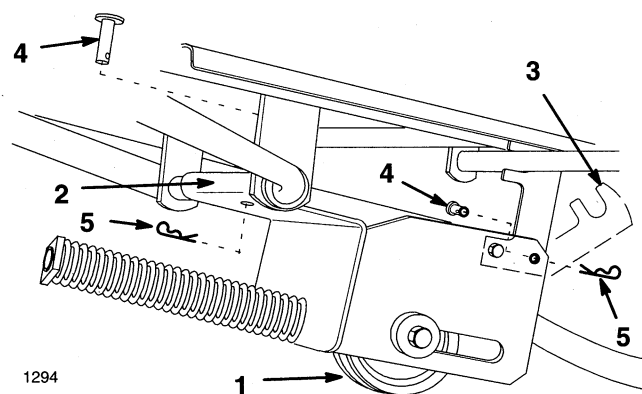

Figure 20
5. Pull on idler pulley (Fig. 20) to relax belt tension and remove drive belt from snowthrower pulley. Remove drive belt.
6. Remove hairpin cotters and clevis pins from front latch lever and rear hook. Unhook idler pulley assembly and remove (Fig. 20).